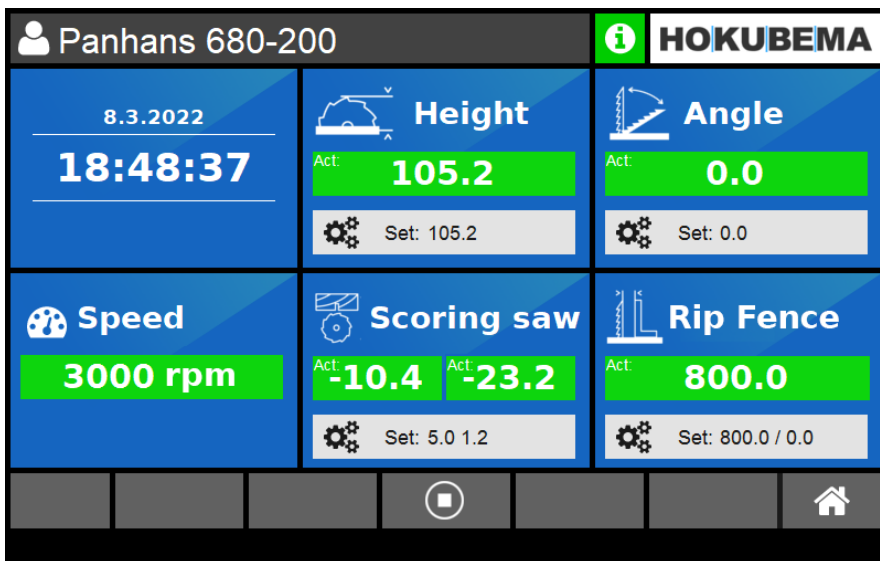

Figure 54: Machine setting areas
1. Press symbol **“Height”**(see ⇨ Figure 54).
1. Press symbol "Angle" (see ⇒ Figure 54)
3. In the **"Height"** window, select the button  (⇒ Figure 54) and enter the value 50.00. Then confirm this value with .